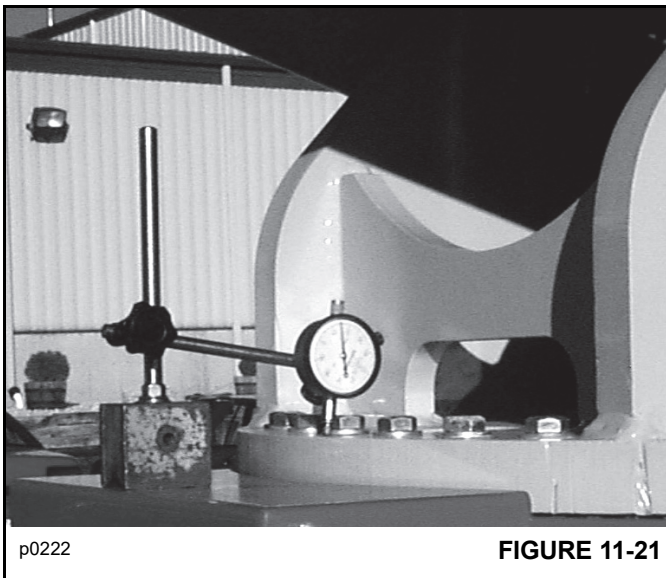

FIGURE 11-21
2. With the boom forward, fully extended and in a horizontal position, place a dial indicator on the swing gearbox cover and mast as shown in Figure 11-21.